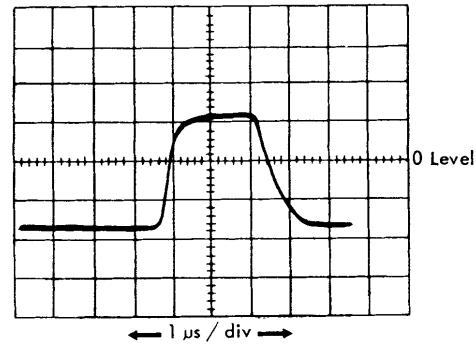

Figure 5. Process Unit Clock  $\phi A$  (1Xa)  $2.25 + .25, -0 \mu s$
##### $\phi A$ pluggable unit 1Y2 (1.01.01) (Figure 5)
7. Observe  $\phi A$  at 1Xa (1.01.01) and adjust 1Y2 (1.01.01) for a pulse length of  $2.25 \mu s$  ( $+0.25, -0$ ) at the zero volt level (See Figure 5). The pulse length is adjusted by inserting the single shot adjusting tool (#2108031) through the base of the adjustable inductance tank unit (CU302) and turning clockwise to increase the pulse length and counterclockwise to decrease.